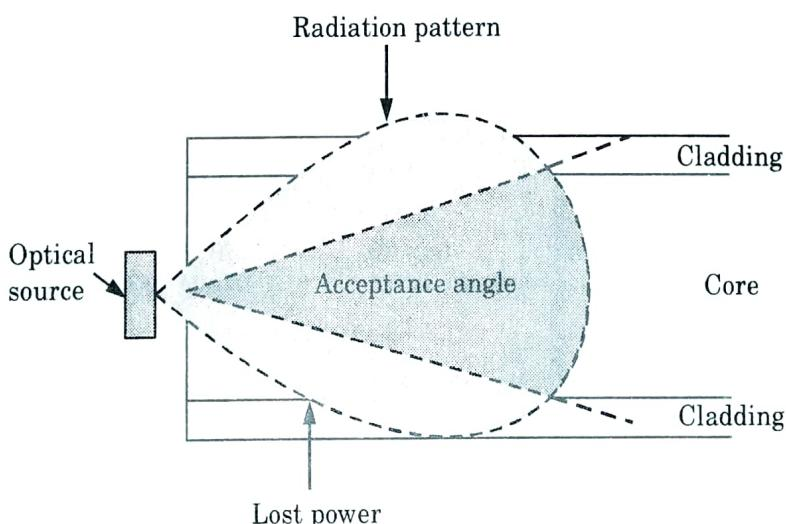

Fig. 4.2.1. Optical source coupled to fiber.
1. To calculate coupling into the fiber, let us consider an optical source launched into fiber as shown in Fig. 4.2.1.